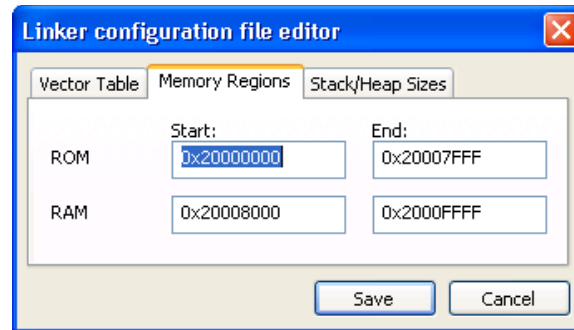

Figure 22 · The Linker Configuration File Editor – Memory Regions Tab
5. Click **Edit** to display the **Linker configuration file editor**, as shown in Figure 22 · . This window displays the Vector Table, Memory Regions, and Stack/Heap Sizes tabs.